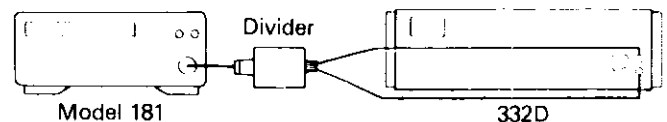

FIGURE 5-5. Preamp Calibration
B. Connect the DC calibrator, 1000 to 1 divider and the 181 as shown in Figure 5-5. Allow approximately one minute for thermal EMFs to settle out. Turn HI RES on.